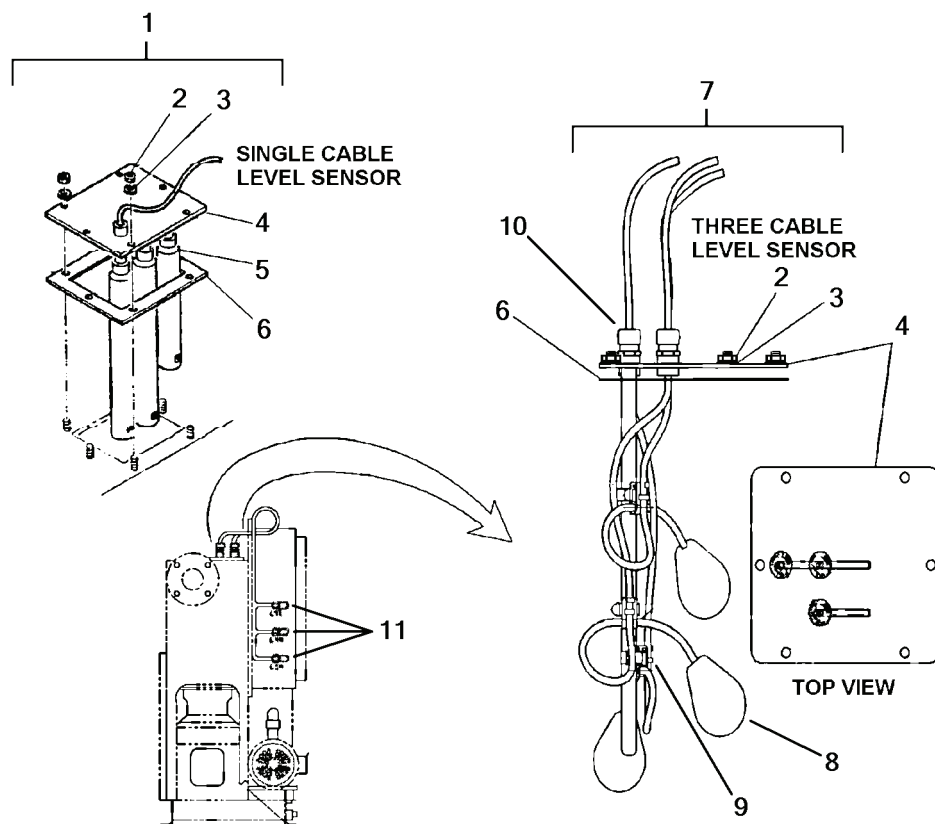

Figure 2-18. Level Sensor Assembly.
2-17. Level Sensor Assembly. (Figure 2-18)
Two different types of Level Sensor Assemblies exist on the MSD. Probes with a single cable design (1, Figure 2-18) and floats with a three cable design (7).
The single cable level sensor (1, Figure 2-18) is obsolete. Service is only applicable to the probes with a single cable design. If after servicing the probes does not correct the problem, replacement of the level sensor assembly is required utilizing the new Retro Fit kit.
To remove the level sensor assembly, see Figure 2-18 and proceed as follows:
- d. Check for continuity of each float (8) using a multimeter and raising and lowering the float. Verify the contact open and closes for each float to determine the appropriate float that needs to be replaced.
- e. Loosen the appropriate conduit lock nut(s) (11, Figure 2-18) located on the side of the control panel and remove cable(s) for the appropriate float (8) by pulling.
- f. Loosen the conduit locknut (10) on the level sensor assembly cover (4), remove cable clamp (9) from float (8) and retain.
To replace the level sensor assembly, see Figure 2-18 and proceed as follows:
- a. Install new float by threading cable through conduit locknut (10) and thread the running end of the cable through the appropriate conduit locknut (11) on the control panel and connect the float (8) to the clamp (9).
- b. Tighten conduit locknuts (10 and 11, Figure 2-18).
- d. Install cover (4) and gasket (6) with six nuts (2) and six washers (3) to the tank top cover (Figure 2-18).